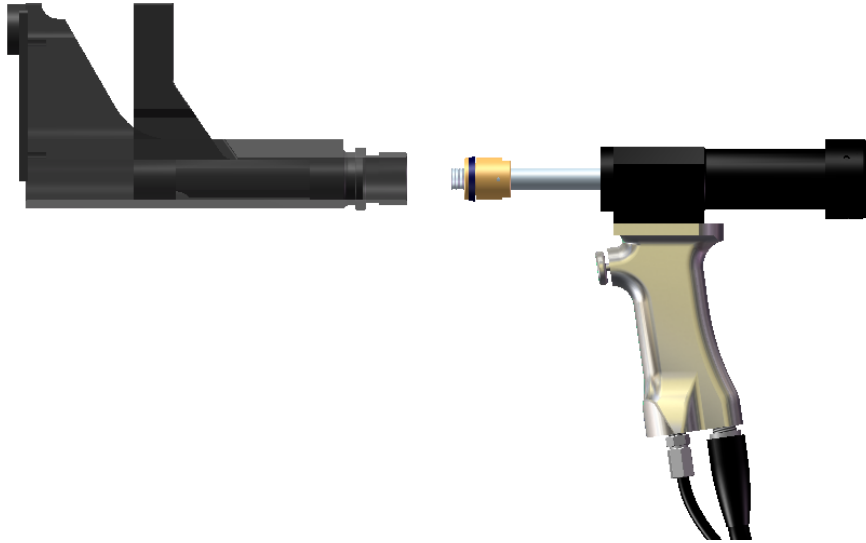

Figure 6-1
1. Thread the LB piston rod into the LBOA slide assembly, then thread the LBOA housing into the LB housing (Figure 6-1).